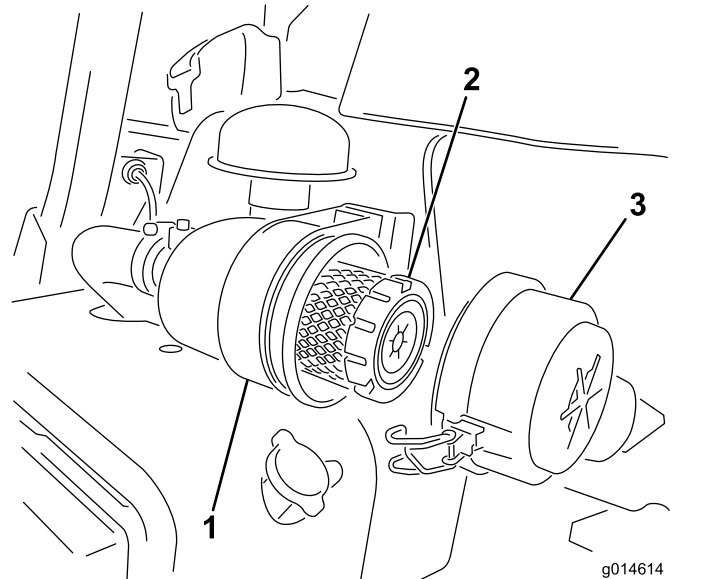

Figure 38
1. Release the latches securing the air-cleaner cover to the air-cleaner body (Figure 38).
7. Secure the latches (Figure 38).